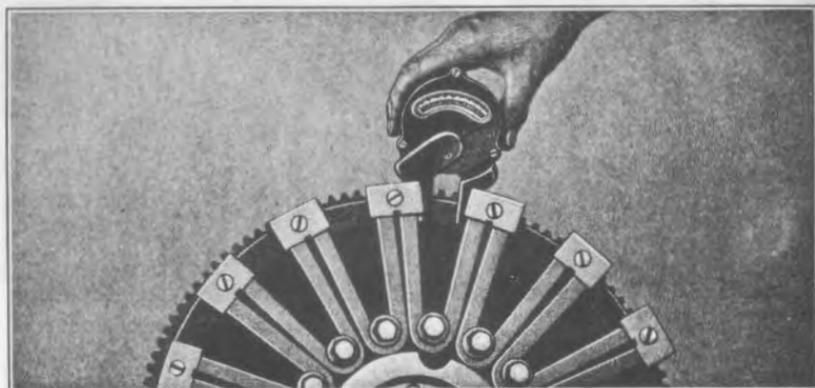

Fig. 188
- 276 The magnets are checked for strength with a magnet tester. The tester is placed between the ends of the magnets so that the poles on the tester come in contact with both sides of the magnet (See Fig. 188). The operation is repeated until each magnet has been checked. If the magnets are at full strength a reading of 50 units or more should register on the dial. (With the transmission cover removed the strength of the magnets can be checked in the car in the same manner, turning the engine over with the starting crank about one-quarter turn at a time until all of the magnets have been tested. With the magnet clamps positioned directly between the magneto coil cores, a reading of 45 units or better should register on the dial when magnets are checked in the car. When magnets are removed from the flywheel and checked individually a reading of 35 units or better should be obtained).